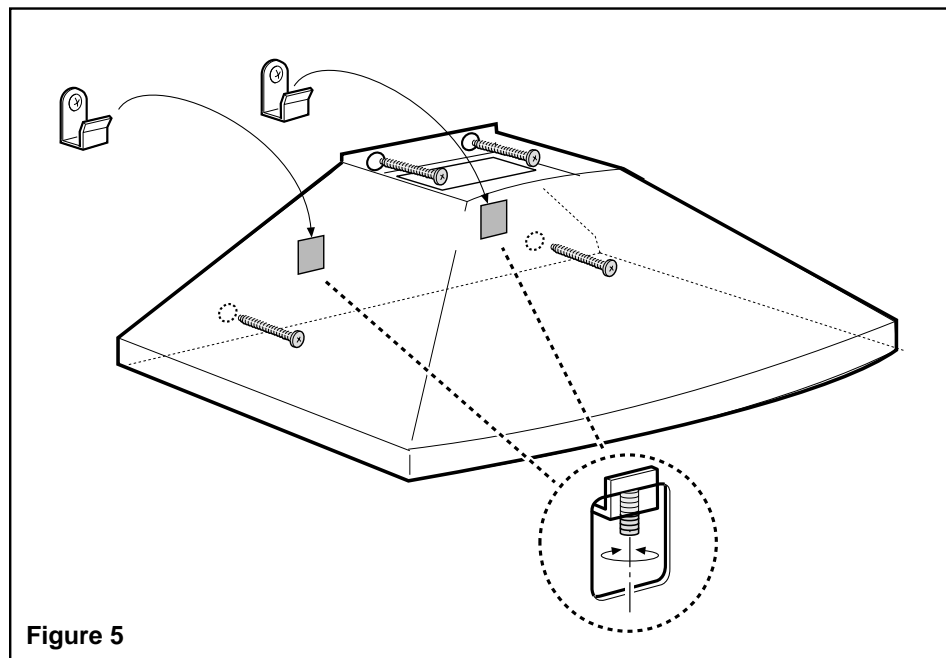

Figure 5
12. Hang hood on 2 mounting hooks through the rectangular cutouts on back of hood. Figure 5
14. Secure hood with 2 screws on top and 2 screws on bottom. See Figure 5.